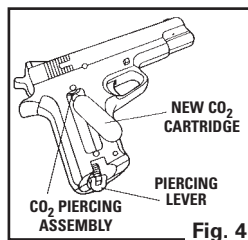

Fig. 4
- With the right grip cover removed, insert a new CO2 cartridge into the air pistol with the small neck of the cartridge pointing toward the piercing assembly (Fig. 4).